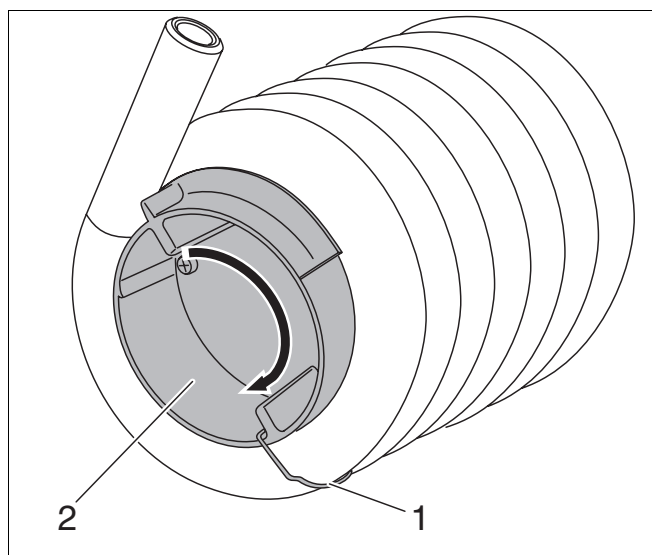

Fig. 49 Removing the diffusion head
- Remove the diffusion head (fig. 49, item 2) on the underside of the heat exchanger by withdrawing the securing pin (fig. 49, item 1) and unscrewing the diffusion head.